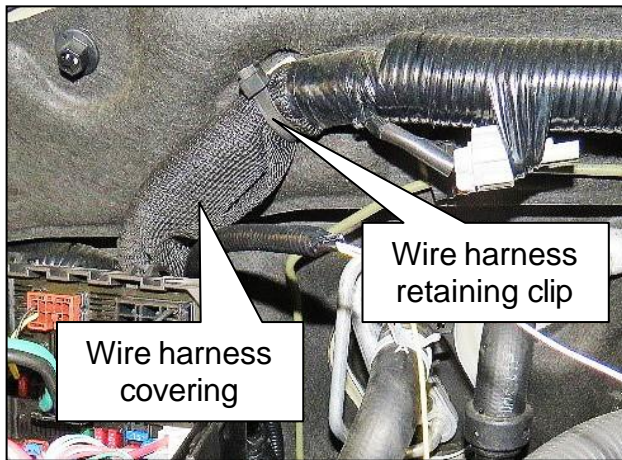
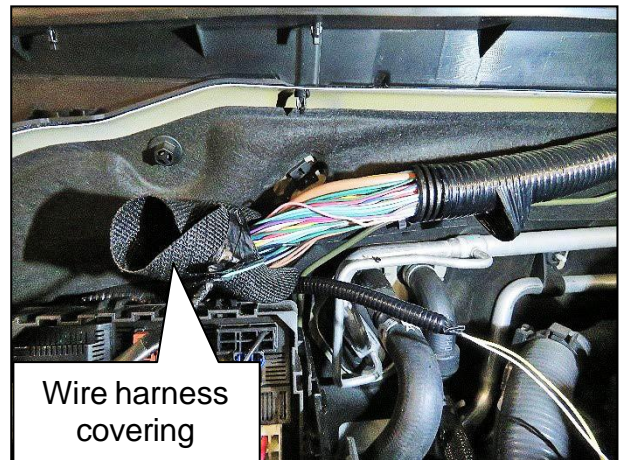

Figure 33
Figure 34
28. Remove the engine room wire harness retaining clip and the wire harness covering (Figure 33) to expose the wires in the engine room wire harness (Figure 34).